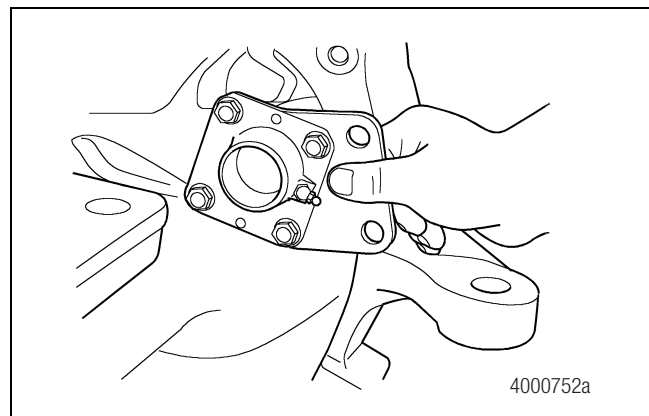

Figure 4.25
16. Remove the screws and the bearing support bushing plate from the back side of steering knuckle. Figure 4.25.